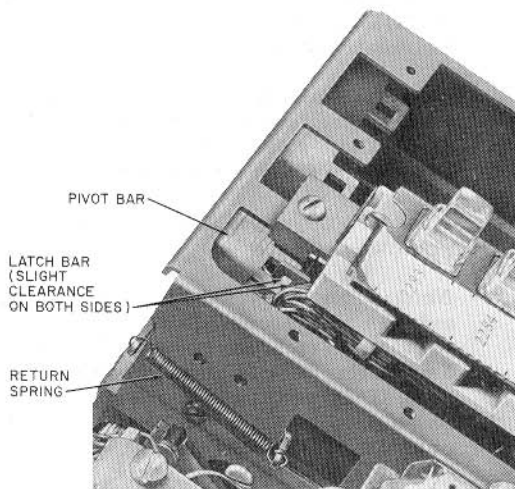

Fig. 6—Positioning 590 and 650 Series Keys
***Before installing additional keys or replacement keys, check for free pivot bar motion and proper return spring action (Fig. 6).***
- (1) Install the desired key and tighten mounting screws. Check for clearance between pivot bar and connector mounting bracket on key.
- (2) Depress the top button (first line pickup) of the key in left-most position until its bar moves to its forward-most operating position and hold in this position. Do not lock down.
- (3) While holding the (reference) key latchbar as in (2), slowly depress the top button of the key and observe the effect of its latchbar on the pivot bar. If the pivot bar moves significantly in the forward direction, the installed
- (4) Depress the top button of the installed key as in (2) and hold its latchbar in the forward-most position as in (3). Observe the effect of the latchbar of the (reference) key on the pivot bar while slowly depressing its top button. If the pivot bar moves significantly in the forward direction, the installed key is positioned too low. To correct, loosen the screws and very slightly raise the key until the pivot bar has no perceptible forward motion. Retighten screws and recheck (3).
- (5) Loosen the screws of the (reference) key. With no buttons down and the latchbar held in, shift the reference key until latchbar notch is centered over edge of pivot bar (Fig. 6).